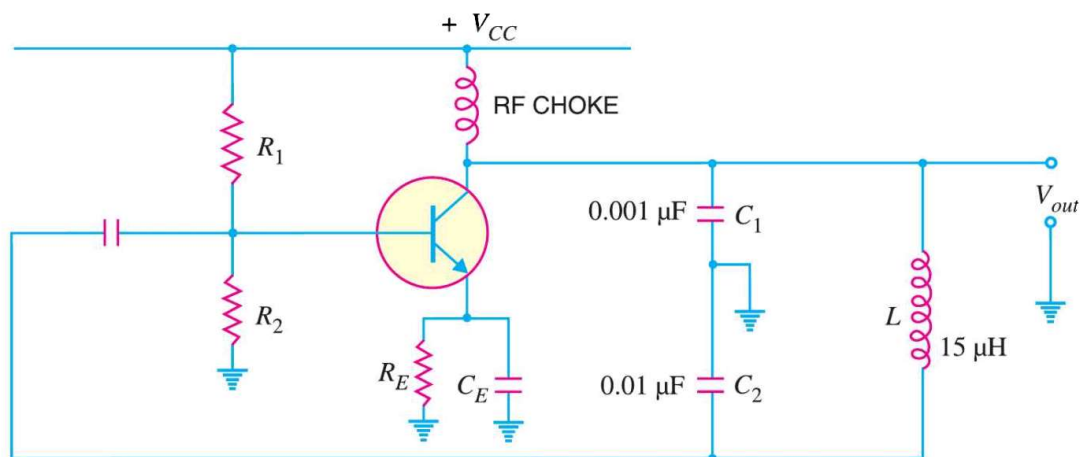

Fig. 14.12
**Example 14.3.** Determine the (i) operating frequency and (ii) feedback fraction for Colpitt’s oscillator shown in Fig. 14.12.